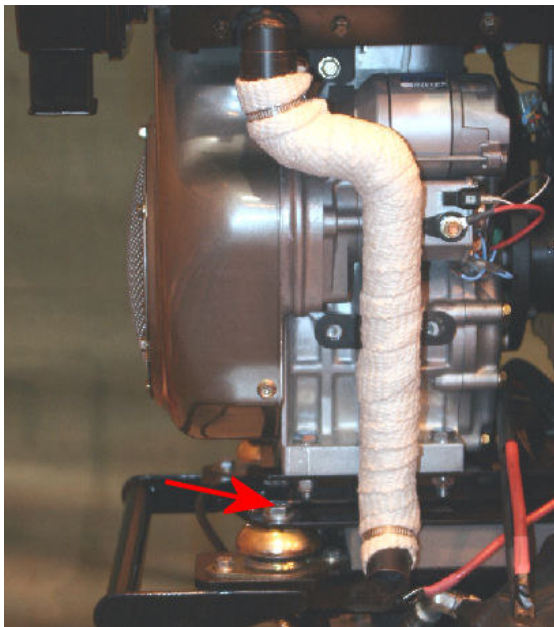

Fig 5-7 Engine bolts – one of three
13. Remove the three bolts securing the base of the engine to the shock absorbers (Fig 5-7).